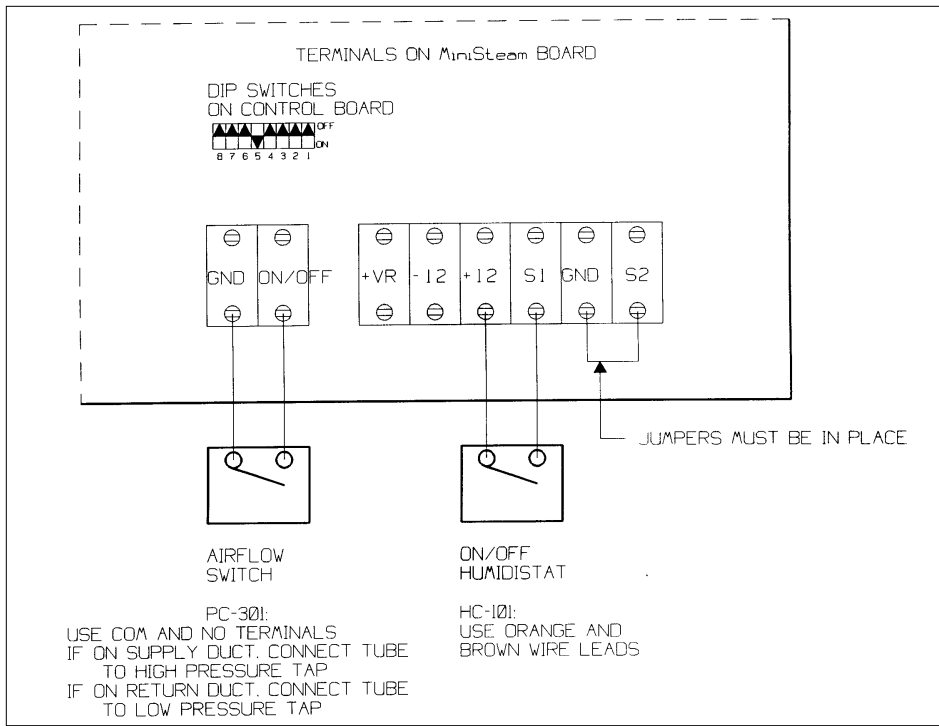
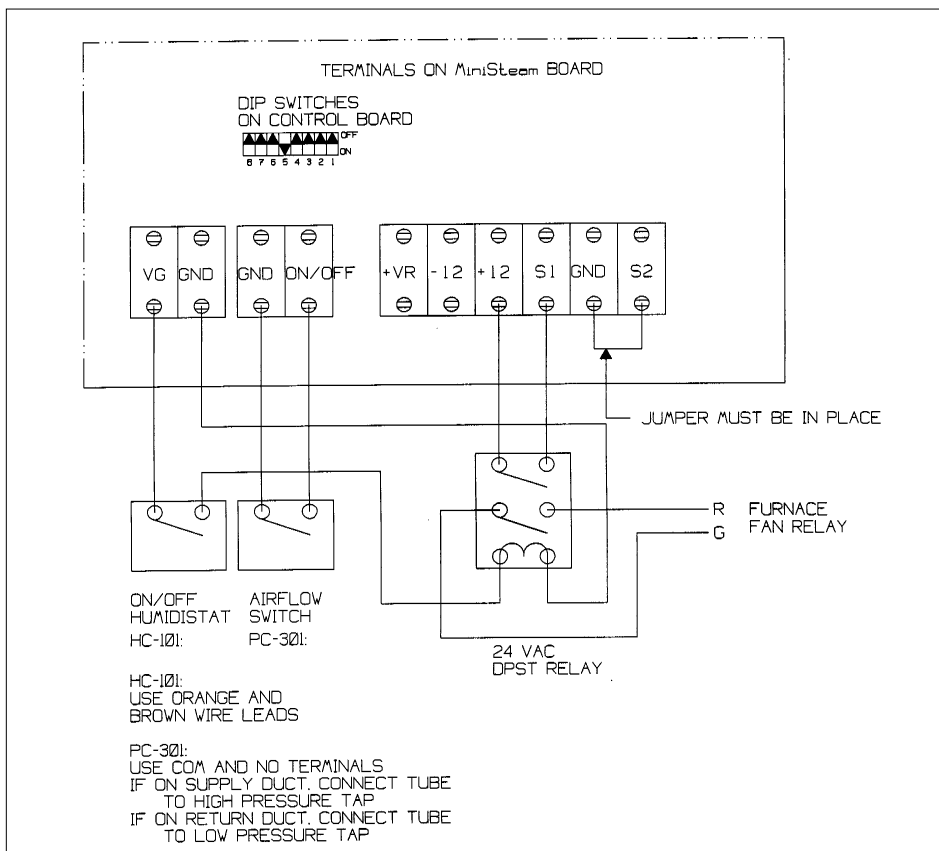

Figure 26
Figure 27
31. Connect the wires per one of the following control wiring diagrams, directly to the bottom of the circuit board. Figure 26 is the standard wiring diagram. If you desire for the humidifier to activate the heating fan whenever there is a call for humidity, then use the following control wiring scheme instead. A small, 24 Vac DPST relay will be needed. (See Figure 27 below left)